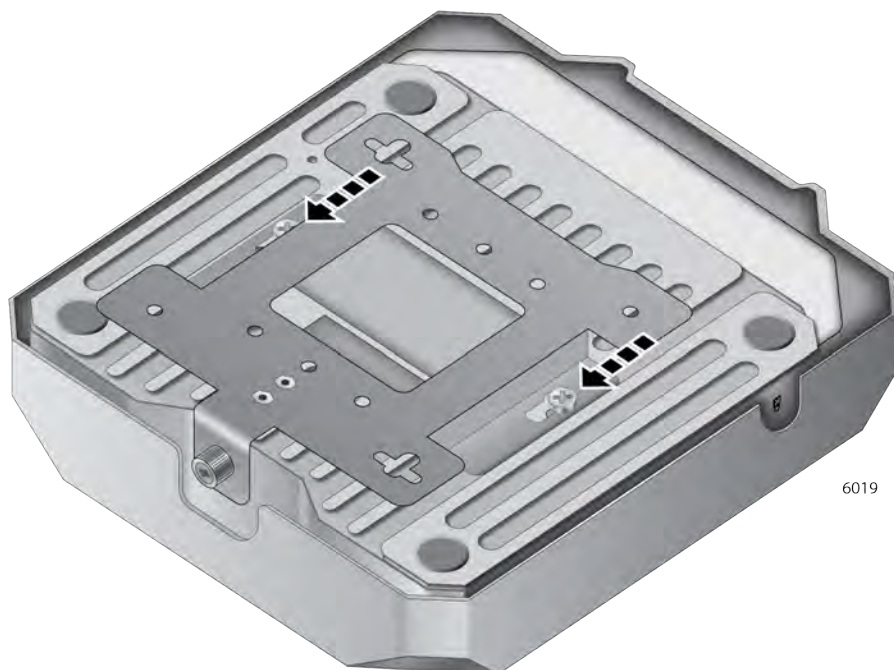

Figure 14. Attaching the Mounting Bracket on the Access Point
2. Install the mounting bracket on the access point by sliding the keyholes under the screws. Refer to Figure 14 on page 45.